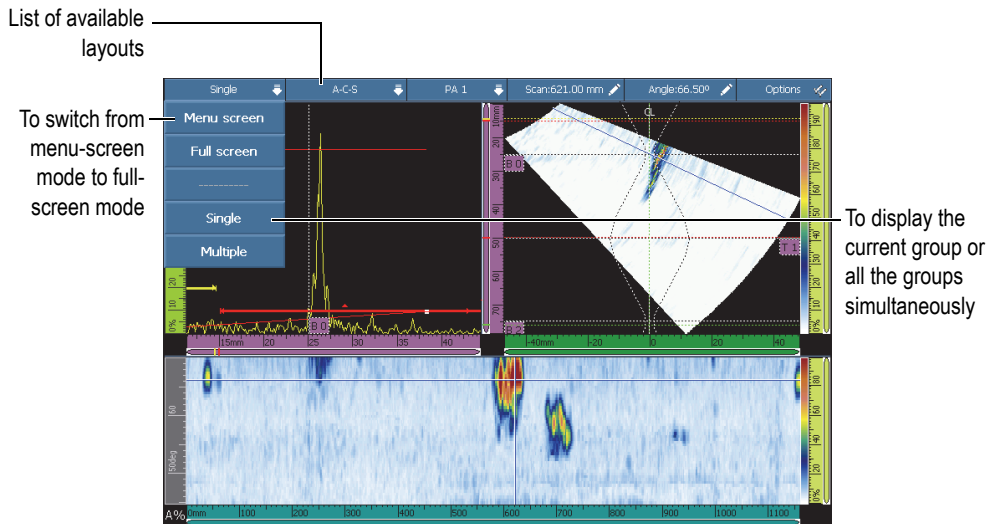

Figure 2-2 The title bar shortcut menus
You can use the title bar shortcut menus (see Figure 2-2 on page 34) as follows:
1. Tap the Mode section of the title bar (see Figure 2-2 on page 34, near top left).
1. Tap the Group section of the title bar (see Figure 2-2 on page 34).
1. Tap the **Scan** section of the title bar (see Figure 2-2 on page 34).
1. Tap the **Index** section of the title bar (see Figure 2-2 on page 34).
1. Tap the Angle/VPA section of the title bar (see Figure 2-2 on page 34).
1. Tap the **Options** section of the title bar (see Figure 2-2 on page 34).